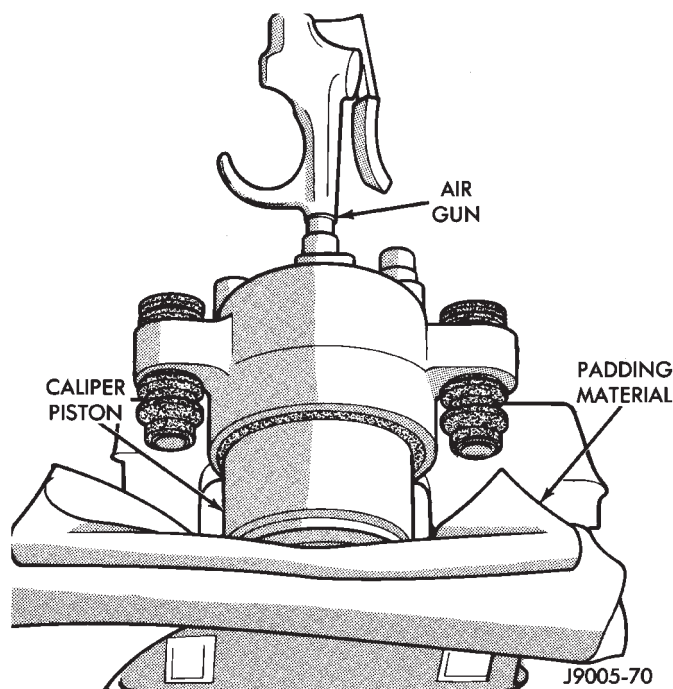

Fig. 46 Caliper Piston Removal
(4) Remove caliper piston with **short bursts** of low pressure compressed air. Direct air through fluid inlet port and ease piston out of bore (Fig. 46).